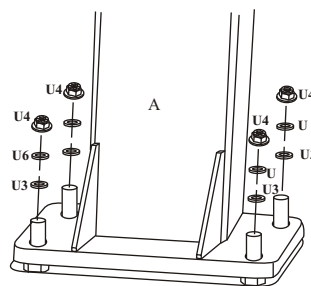

FIGURE 1B
- B. Remove the Padding from Main Post (A). Place the Main Post (A) over the J-Bolts. Slide a 16mm Thick Washer (U3), a Lock washer 16mm (U6) and thread a 16mm Hex Nut (U4) to each J-bolt. Tighten the Nuts only a few turns onto the J-Bolts as shown in FIGURE 1B.
- C. If the Main Post (A) is not exactly vertical, adjust the 16mm J-Bolt Hex Nuts (U4) located under the Post base. Tighten all of the Hex Nuts (U4) Above Post base when Main Post (A) is vertical.